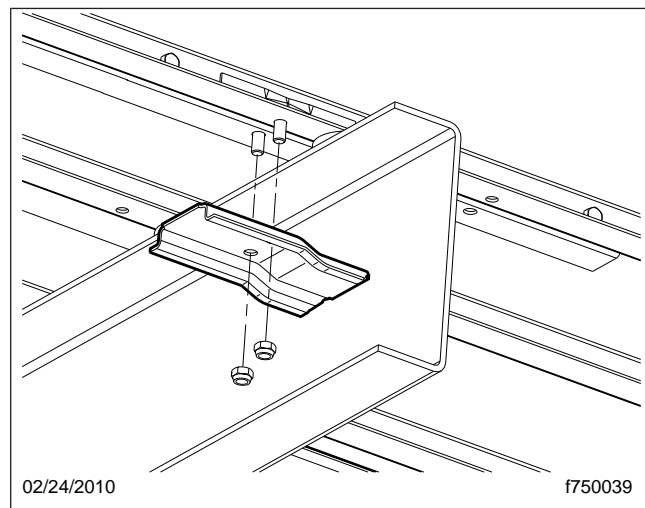

Fig. 12.15, Body Mounting Bolts and Clip (number and location vary)
6. Check that the body mounting bolts and clips are securely fastened. If needed, tighten the bolts 30 lbf-ft (41 N-m). **Figure 12.15** shows an example of body mounting bolts and a clip.